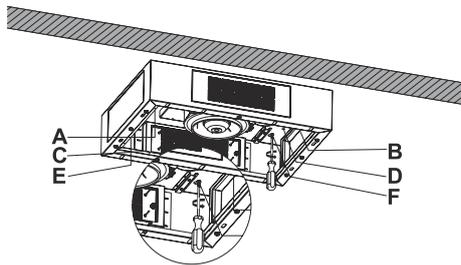

Fig. 14
4. Tighten the screws at points A, B and E, F (Fig. 14).
Fix the motor box with 5.5 x 60 screws at points C and D (Fig. 14).